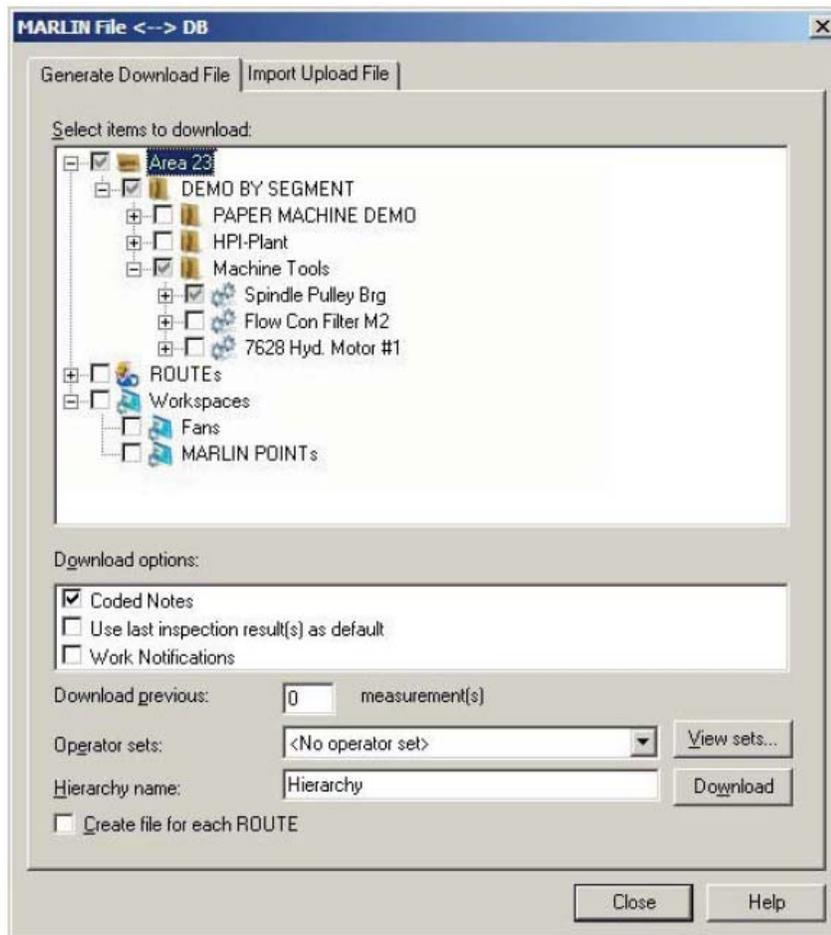

Figure 1. MARLIN File <--> DB transfer dialog
2. Select **File <--> DB**. The **MARLIN** or **Microlog File <--> DB** dialog displays. [Figure 1]